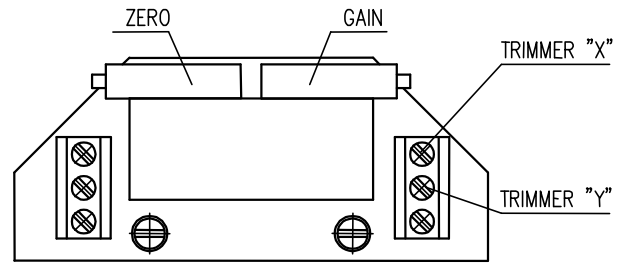

Fig. 6
#### 4.4.2 EPV – 3-wire version (Fig. 6, 6a)
- Adjust the resistive transmitter according to the previous chapter. The resistance is to be metered on the terminals X-Y, resp. 0%-100% (Fig. 6, 6a). The used transmitter resistance is 2000 W or 100 W.